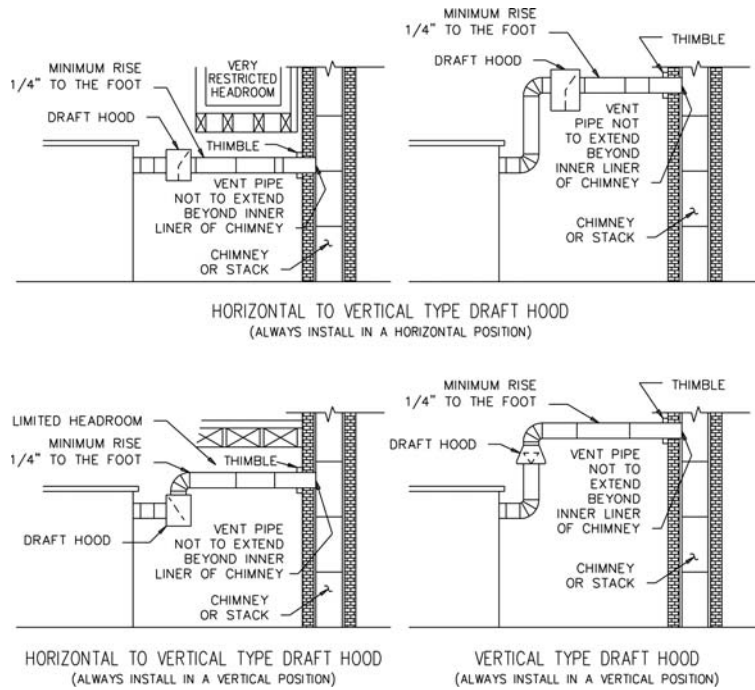

Figure 3: Recommended Locations for Draft Hoods
- A draft hood or a barometric draft regulator shall be installed in the same room or enclosure as the equipment in such a manner as to prevent any difference in the pressure between the hood or regulator and the combustion air supply (see Figures 3 and 4). In no case shall the relief opening of the draft hood or barometric draft regulator be located at a point lower than the top of the highest flue passage in the equipment.
*Note: Figure 3 and 4 :